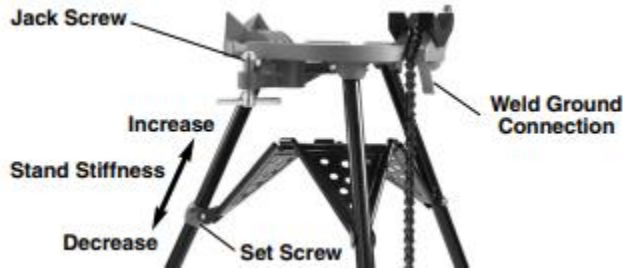

Figure 2
8. Welding Connection – Pipe Vises include a welding ground connection point under the vise, see Figure 2.